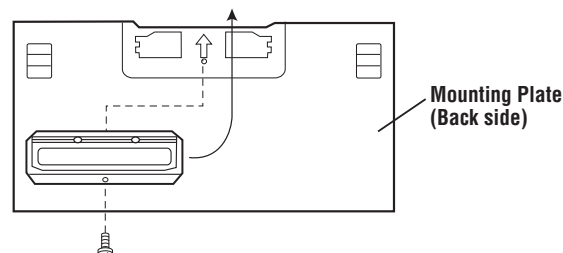

Figure 12
6. Attach the Exhaust Damper Assembly to the back of the mounting plate by sliding it into the slits in the same direction as the arrow. See Figure 12. Using tapping screw 4 x 12 mm from the INSTALLATION HARDWARE, tighten into place.